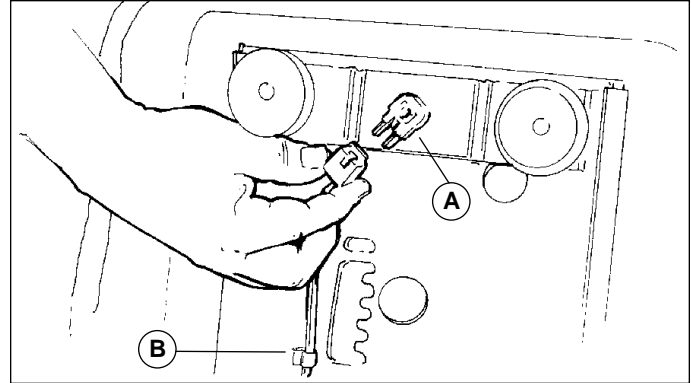
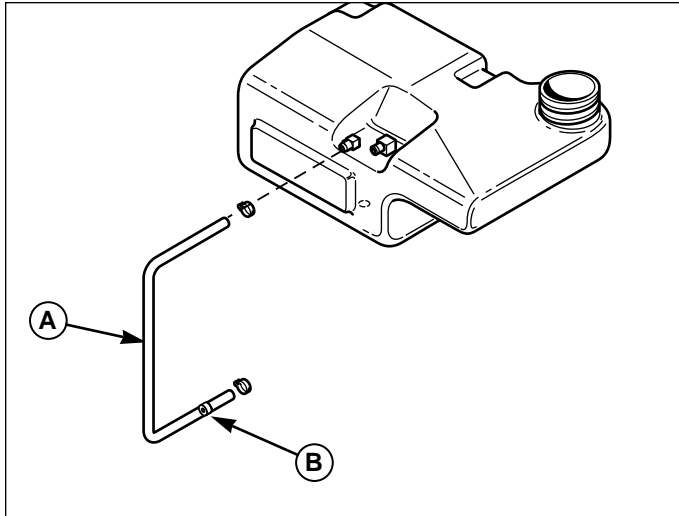
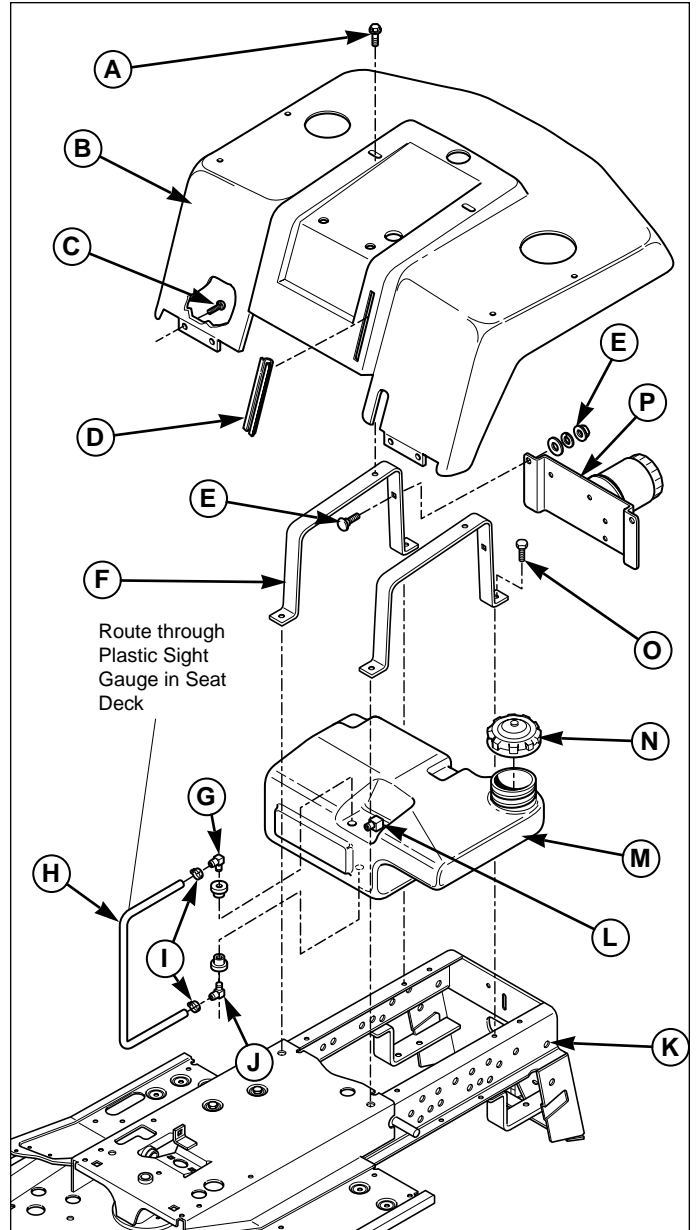

Figure 1. Disconnect Operator Present Switch
Figure 2. Install Orifice
Figure 3. Gas Tank Replacement
2. Tilt the seat forward and disconnect the wire harness attached to the operator present safety switch (A, Figure 1). Note that the harness plug has a locking tab that must be released before disconnecting plug.
3. Remove the wire harness from the speed clip (B) that holds the harness to the bottom of the seat.
- Remove the hose clamp (I, Figure 3) from the bottom sight tube fitting (J)
- Disconnect the clear sight tube (H) from the bottom of the fuel tank.
5. Remove the two bolts (C) located at the rear of the foot rests connecting the seat deck to the tractor frame (K).
6. Remove the bolts (A) connecting the seat deck (B) to the deck supports (F). *Do not remove the seat deck yet.*
7. After the fuel tank has drained, tip the seat deck (B) forward slightly and disconnect the sight tube (H) from the top fuel tank fitting (G).
8. Remove the sight tube (H) from the plastic gauge (D) in the seat deck. Pull the tube down. Discard the sight tube (H).
9. Remove the seat deck (B).
1. Set the seat deck (B, Figure 3) on the seat deck brackets (F).
2. Tip the seat deck (B) forward to access the sight tube (H).
4. Lubricate the sight tube (H) with white lithium grease.
5. Insert the tube (H) through the sight gauge (D) from the top while tipping the seat deck down. All slack tubing must be removed from above the sight gauge or the clear tube (H) will kink.. Before securing the seat deck, check that the tube is not kinked at the top fitting (G).
6. Using an allen wrench, insert the small orifice fitting (B, Figure 2) apx. 1/2"-3/4" into the bottom of the clear tube (A).
7. Connect the clear tube (H, Figure 3) to the bottom fuel tank fitting (J). Secure using the hose clamp provided.
8. Secure the seat deck (B) to the seat deck brackets (F) and frame (K) using the original hardware (A & C).